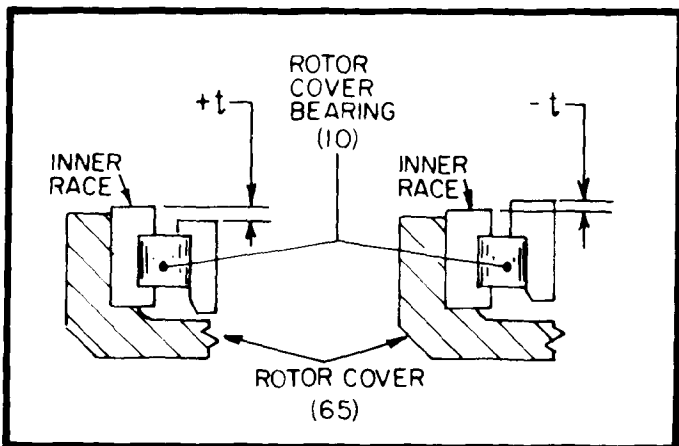

Figure 8. Initial Roller Bearing Race Projection. (508644)
See Figure 8. Measure height difference between the faces while the outer race of the rotor cover bearing (10) is resting on the roller faces. If rotor cover bearing is not being replaced, this dimension must be checked, but the rotor cover and slideblock cover must be separated from the pump. In either case, record as "+ t" if inner race projects or as "- t" if outer race projects.